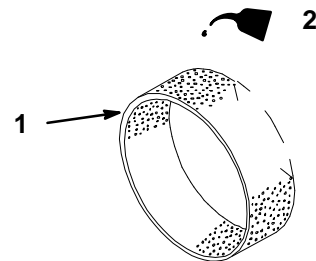

Figure 16
- C. Put one or two ounces of oil on the element (Fig. 16). Squeeze the element to distribute the oil.